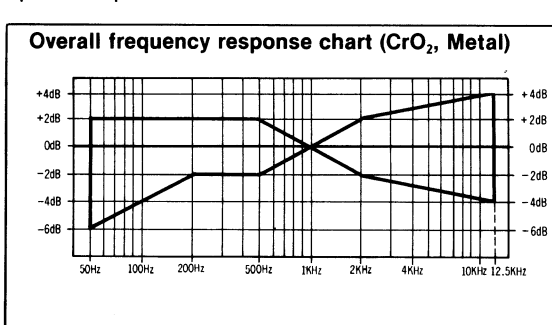

Fig. 14
- Change test tape to CrO2 reference blank test tape (QZZCRX), and record 1kHz, 50Hz, 100Hz, 200Hz, 500Hz, 4kHz, 8kHz, 10kHz and 12.5kHz signals. Then, playback the signals and check if the curve is within the limits shown in the overall frequency response chart for CrO2 tapes (fig. 14).
- Place UNIT into metal tape mode and change test tape to metal reference blank test tape (QZZCRZ), and record 1kHz, 50Hz, 100Hz, 200Hz, 500Hz, 4kHz, 8kHz, 10kHz and 12.5kHz signals. Then, playback the signals and check if the curve is within the limits shown in the overall frequency response chart for metal tapes (fig. 14).